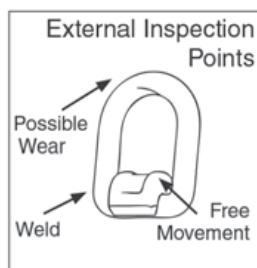

Figure 3
- Regularly inspect weld-on pivoting link parts (Figure 3).
- When a hoist ring is used in a side load application, ensure equal loading on the pins by aligning the bail as shown in (Fig. 3).